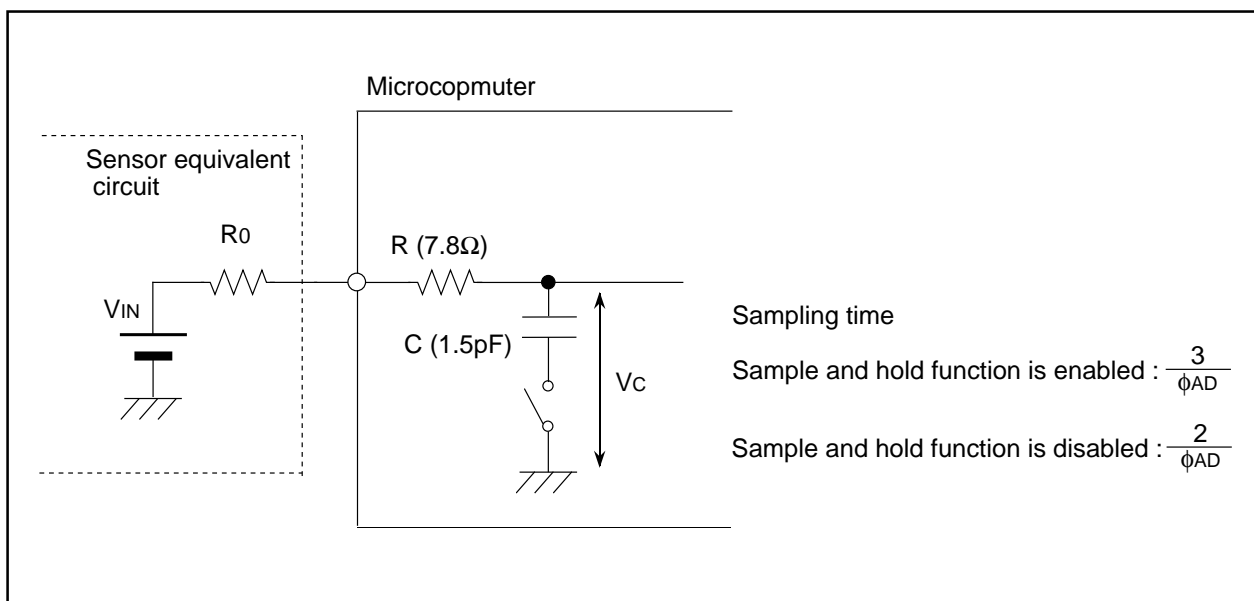

Figure 18.8 Analog Input Pin and External Sensor Equivalent Circuit
For perfect A/D converter performance, complete internal capacitor (C) charging, shown in Figure 18.8, for the specified period (T) as sampling time. Output Impedance of the sensor equivalent circuit (R₀) is determined by the following equations:
Figure 18.8 shows analog input pin and external sensor equivalent circuit. The impedance (R₀) can be obtained if the voltage between pins (V_C) changes from 0 to V_{IN} - (0.1/1024) V_{IN} in the time (T), when the difference between V_{IN} and V_C becomes 0.1LSB.